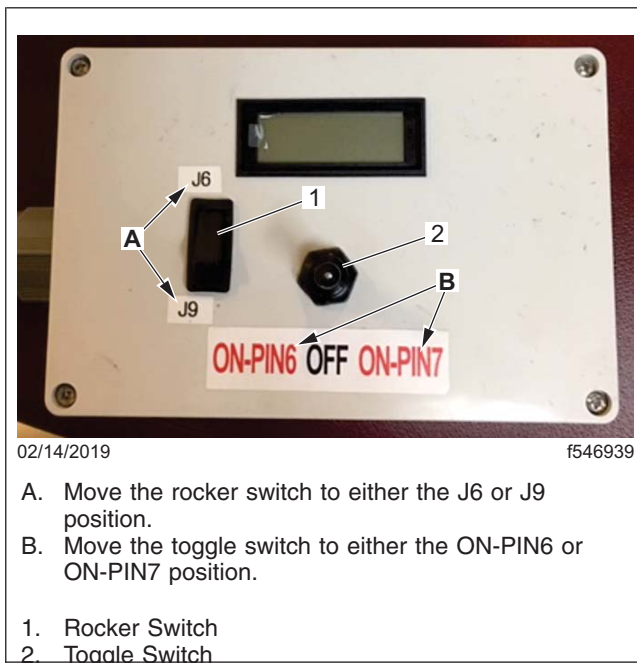

Fig. 4, Tester Components
8. With the test probe plugged into the F5 and F6 locations of the PDM, ensure that the tester rocker switch is on the J6 location. See Fig. 4, ref. A and item 1.
9. Move the momentary toggle switch on the tester to the ON-PIN6 location. See Fig. 4, ref. B and item 2. This will read the voltage drop on the J6 connector in the Pin 6 location.
10. Move the momentary toggle switch to the ON-PIN7 location. See Fig. 4, ref. B and item 2. This will read the voltage drop on the J6 connector in the Pin 7 location.
12. With the test probe plugged into relay 18, ensure that the tester rocker switch is on the J9 location. See Fig. 4, ref. A and item 1.
13. Move the momentary toggle switch on the tester to the ON-PIN6 location. See Fig. 4, ref. B and item 2. This will read the voltage drop on the J9 connector in the Pin 6 location.
14. Move the momentary toggle switch to the ON-PIN7 location. See Fig. 4, ref. B and item 2. This will read the voltage drop on the J9 connector in the Pin 7 location.